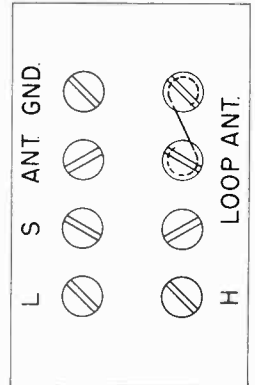

FIGURE 1
1. Remove the signal generator lead from the 6S47 grid and connect it to the radio antenna terminal through the .00025 mfd. capacitor. The link on the antenna terminal board must be set in the ANT position as shown in Figure 1.